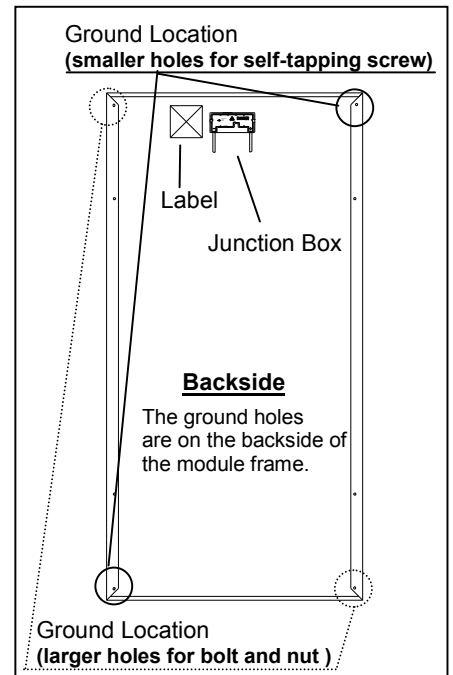

Figure 3.1
- Each ledge on the module frame has two smaller holes for self-tapping screws (0.165” diameter (4.2 mm)) and two larger holes for bolts (0.205” diameter (5.2 mm)). These ground holes are marked with a “G” adjacent to their location on the frame rail (see Figure 3.1). Ground wires must be connected to the module’s metal frame at one of these location.
Method 1- Use a self tapping screw (see Figures 3.1 and 3.2)
Method 2- Use a bolt and nut (see Figures 3.1 and 3.3)
Note: Use the smaller ground holes illustrated in Figure 3.1.
Note: Use the larger ground holes illustrated in Figure 3.1.